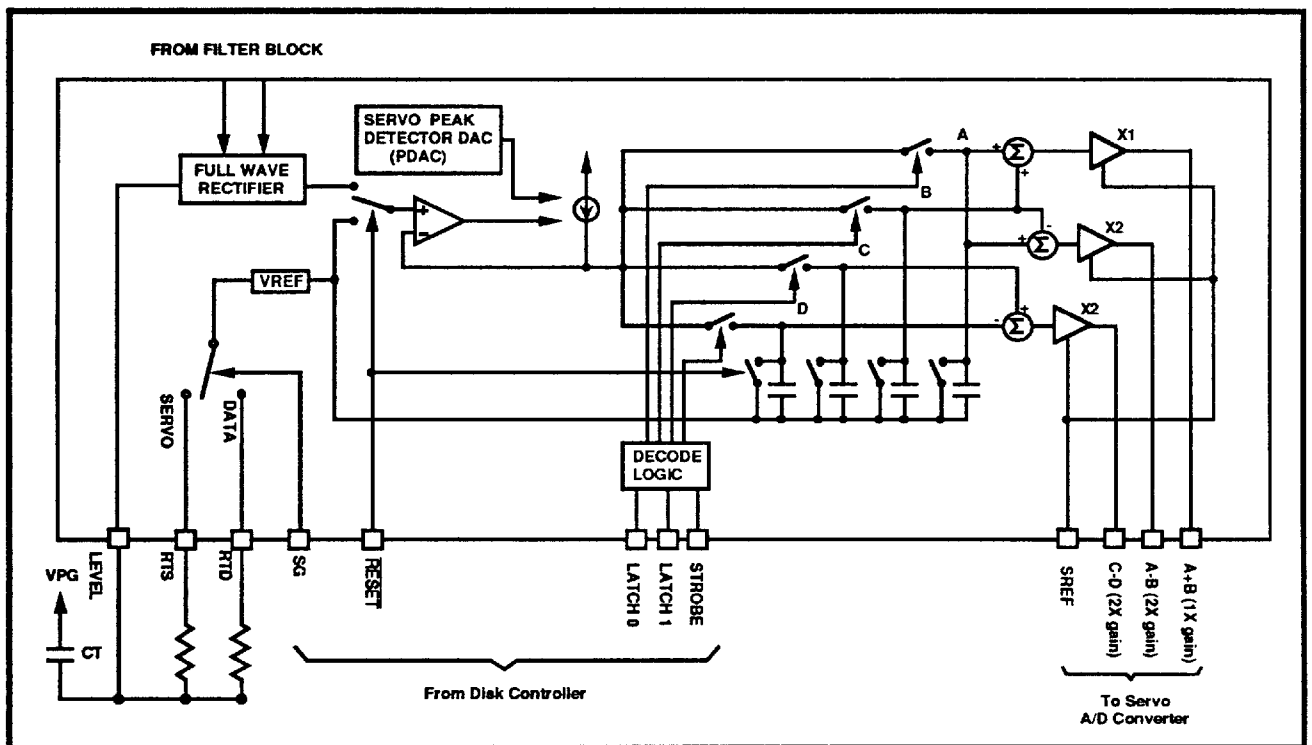

FIGURE 5: Servo Capture
The 32P4730 servo sections capture four separate servo bursts and provide A-B, C-D, A+B burst outputs, Figure 5. Internal burst hold capacitors are provided to support low leakage burst capture and reduce external component count. To support embedded servo applications, the 32P4730 provides additional programming registers that set the filter cutoff frequency ( $f_c$ ) and the qualification threshold level ( $V_{TH}$ ) for servo mode operation. The programmable functions are switched automatically when the servo gate (SG) is asserted, reducing the transition time between mode changes.